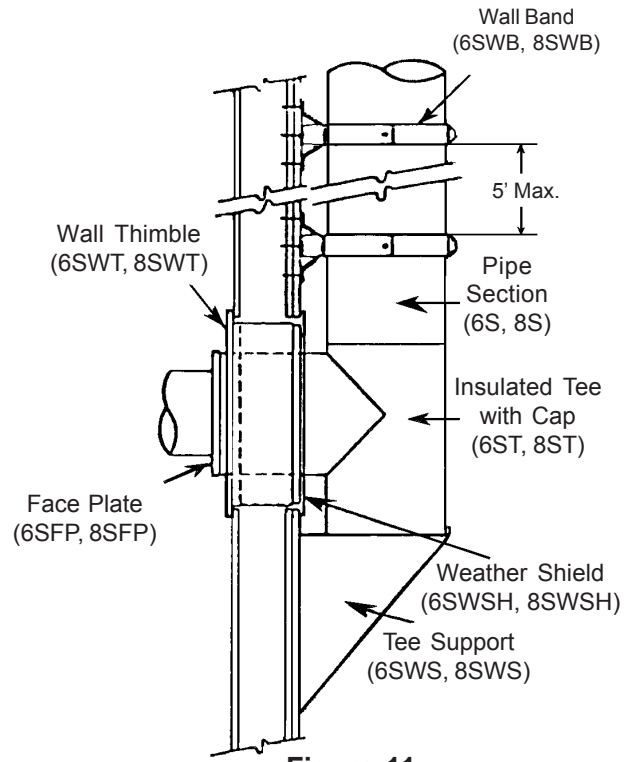

Figure 11
6. Secure the pipe to the wall by installing a wallband (6SWB, 8SWB) every 5'. The bands should be attached with #10 screws. The center bracket of the band should be turned so it is parallel to the pipe (see Figure 11). Tighten the screws on the wall bands securely to form a secure anchor against wind and weather.